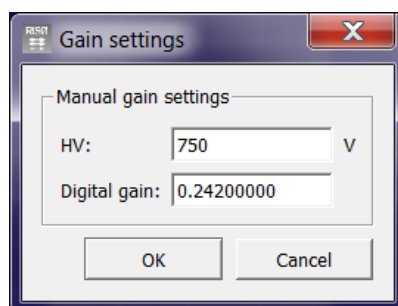

Fig. 1.5: Gain Setting Window
2. Click *Menu – Detector – Gain Setting*, and the *Gain Setting* Window opens (Fig. 1.5):
3. The HV and Digital Gain settings in Fig. 1.5 are just an example. You have to set the high voltage HV and Digital gain according to the values suggested in the NaI Detector *Specification sheet* included in the \Documents\ folder on USB flash drive.